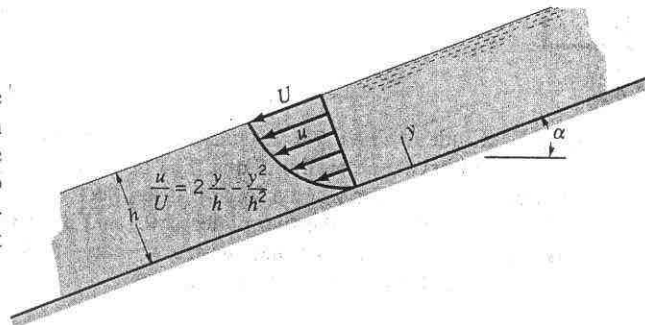

FIGURE P1.82
1.82 A thin layer of glycerin flows down an inclined, wide plate with the velocity distribution shown in Fig. P1.82. For $h = 0.3$ in. and $\alpha = 20^\circ$, determine the surface velocity, U . Note that for equilibrium, the component of weight acting parallel to the plate surface must be balanced by the shearing force developed along the plate surface. In your analysis assume a unit plate width.